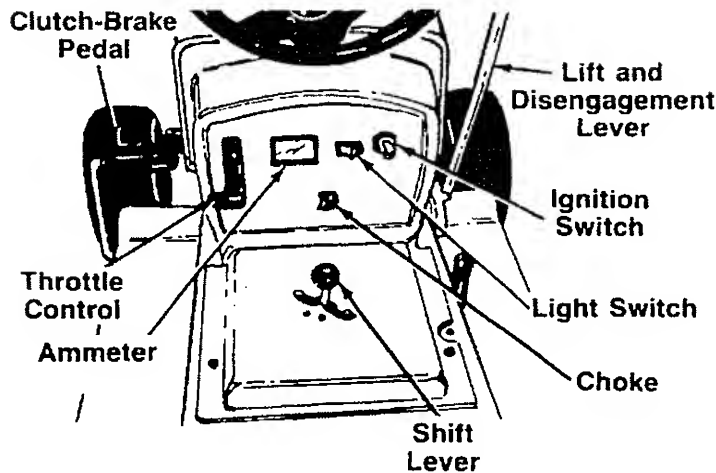

FIGURE 9.
The throttle control is used to regulate the engine speed. To get maximum efficiency from cutting, the throttle should be in the FAST position when operating the mower. See figure 9.
The choke control is located on the dashboard and is operated manually. Details for the choke operation are covered in the separate engine manual packed with your unit. See figure 9.
The shift lever is located in the center of the console and has three positions, FORWARD, NEUTRAL and REVERSE. See figure 9. The clutch-brake pedal must be depressed and the lawn tractor must not be moving when shifting gears. Do not force the shift lever. Release the clutch-brake pedal slightly to line up the shifting collar in the transmission. Then try to shift gears.
Turn the key to the START position to start the engine. When the engine is running, let the key return to the ON position. To stop the engine, turn the key to the left to the OFF position and remove it to prevent accidental starting. See figure 9.
Push the light switch to turn on the lights. The lights will only operate when the engine is running. See figure 9.
The ammeter registers the rate of battery charge or discharge. The ammeter will register on the discharging side when starting the engine. It should register on the opposite side (charging) when the engine is running in the fast position until the battery is completely charged. With a fully charged battery or with the engine idling, the ammeter will not show a charge. See figure 9.
The clutch-brake pedal is located on the left side of the lawn tractor. Depressing the clutch-brake pedal part way disengages the clutch. Pressing the pedal all the way down disengages the clutch and engages the disc brake. See figure 9.
4. Set the throttle control in the FAST position. See figure 9.
6. Turn the ignition key to the START position. When the engine is running, let the key return to the ON position. See figure 9.